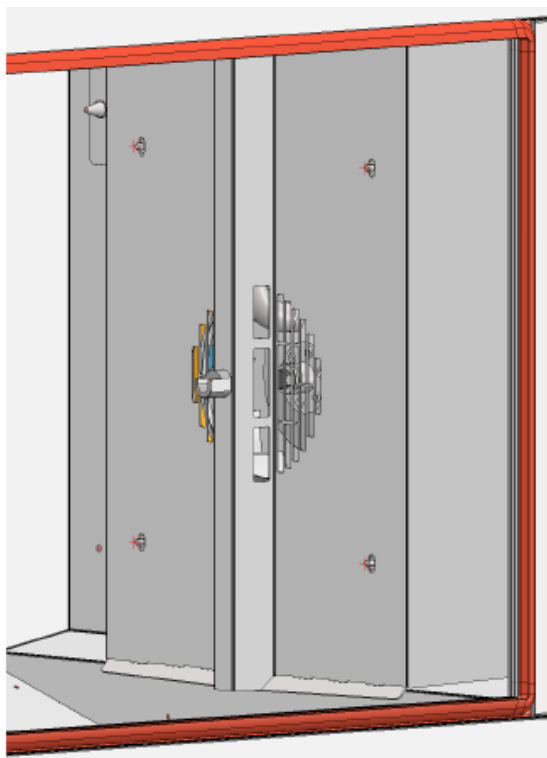

Figure 13
1. The plate can be detached without using tools by removing the four wing nuts (see Figure 13).